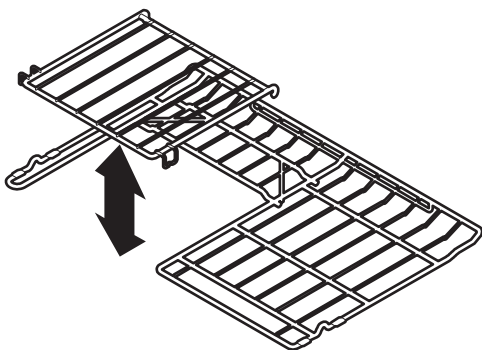

Figure 3
- **Flat oven half rack** (Figure 3 & 4).